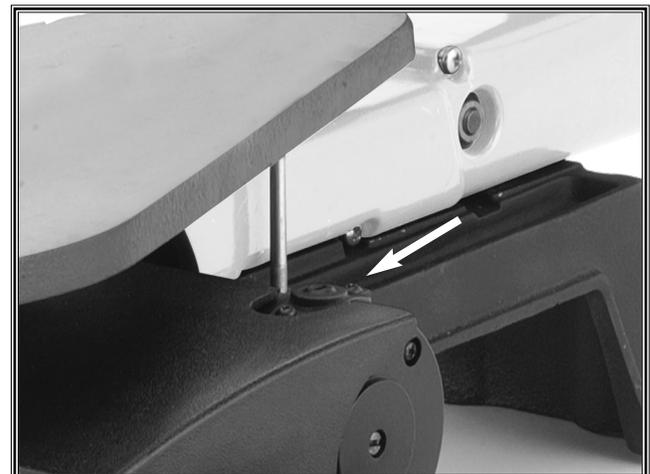

Figure 13. Motor brush cap (1 of 2).
1. Using a flat-head screwdriver, remove the motor brush caps. The top cap is accessible from the top of the scroll saw and the bottom cap is accessible through a hole on the bottom of the base (Figure 13).